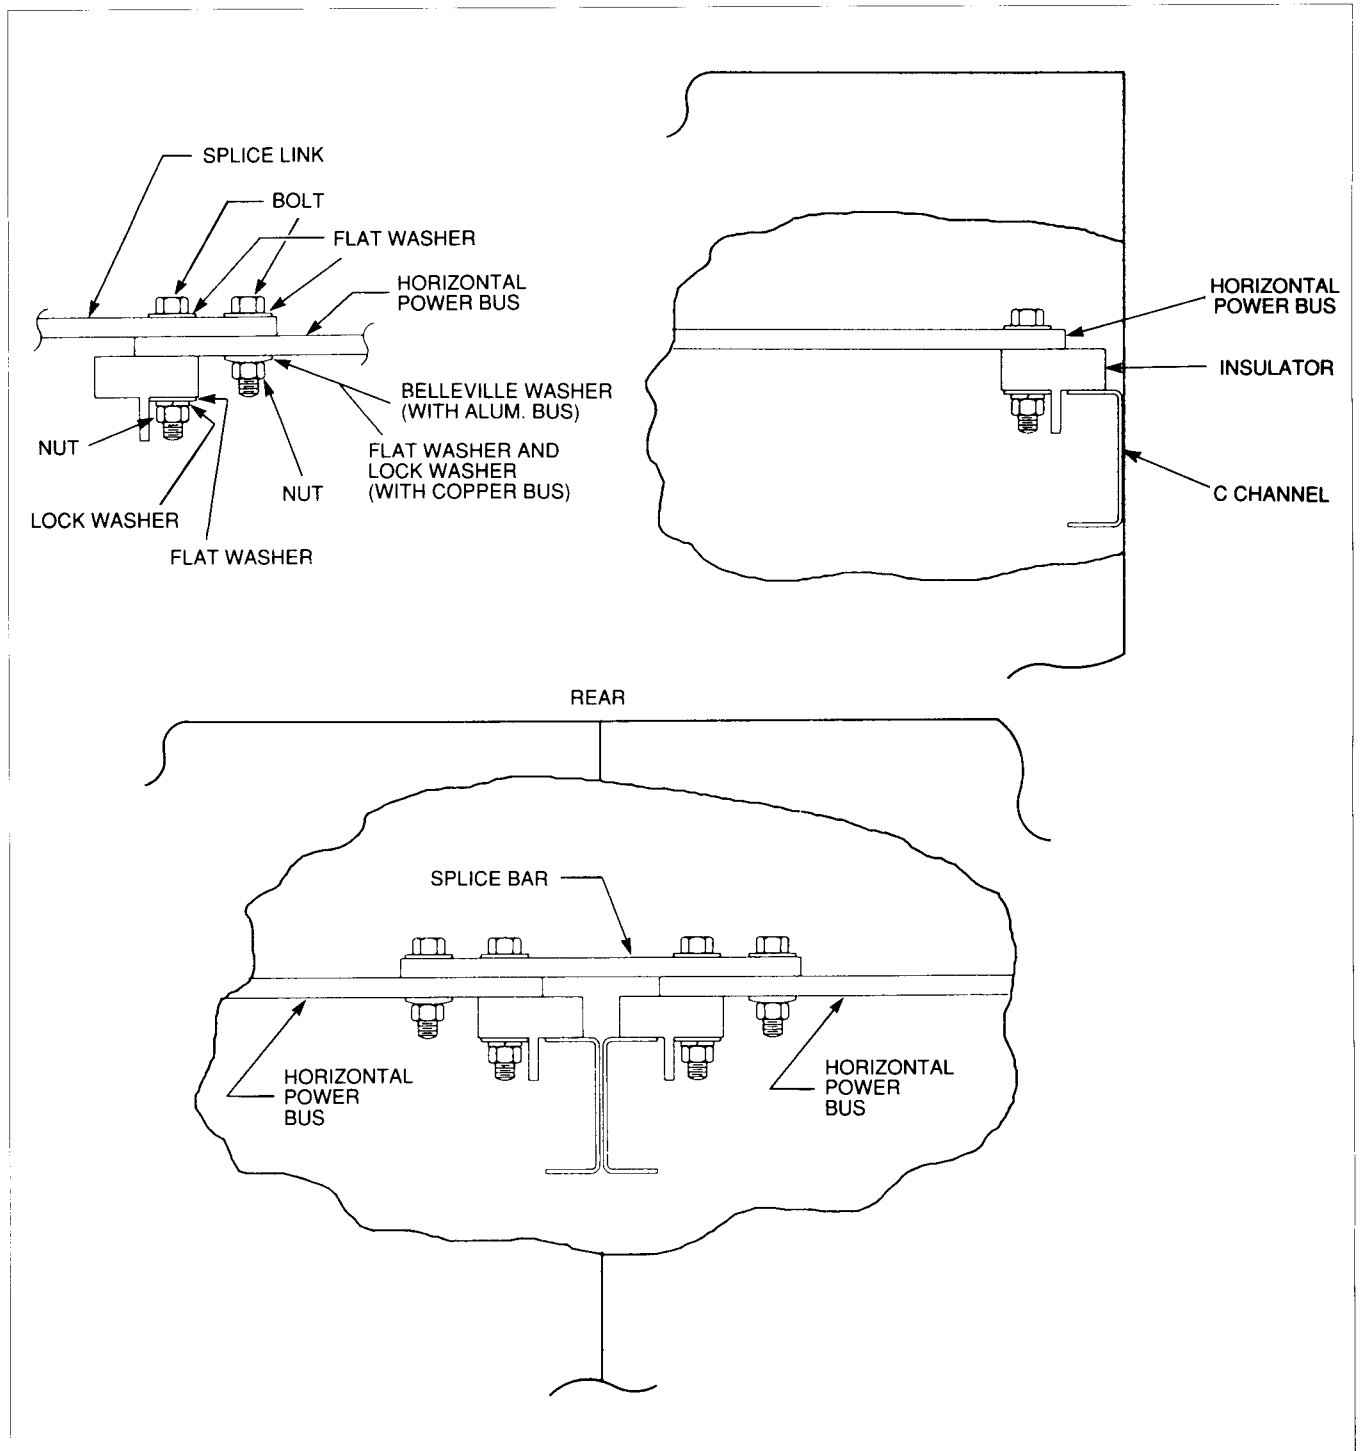

Figure 10C: Joining Shipping Sections, Horizontal Power Bus
5. Assemble the bus bar links to join the horizontal power bus and neutral bus, if supplied, in the two shipping sections as shown in **Figure 10C**. The horizontal and neutral buses may differ in size, material, or plating, therefore, the links must be matched to the proper bars. All links and associated mounting hardware are provided with the motor control center.